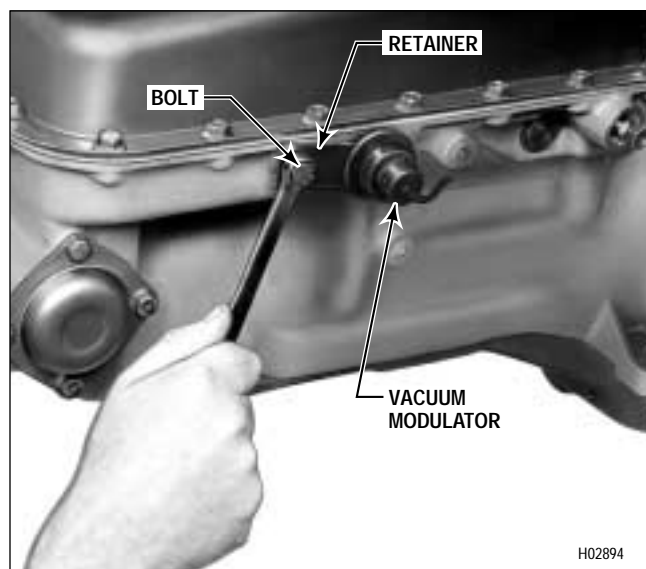

Figure 7-38. Installing Vacuum Modulator Retainer Bolt
(3) Rotate the vacuum modulator until the hose nipple faces ten degrees downward (toward bottom of transmission) and directly forward (Figure 7-38).
(4) Install the modulator retainer, bent tabs toward transmission, and secure it with a $\frac{5}{16}$ -18 x $\frac{3}{4}$ inch bolt (Figure 7-38). Tighten the bolt to 10–16 lb ft (14–22 N·m).